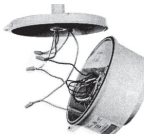

FIGURE 2
3. Hang ballast housing on the cover module hinge hook. See figure 2.
4. Connect supply wires to luminaire wire leads (or terminals) per the attached wiring diagrams using methods that comply with all applicable codes. See figure 2. Tighten all electrical connections.